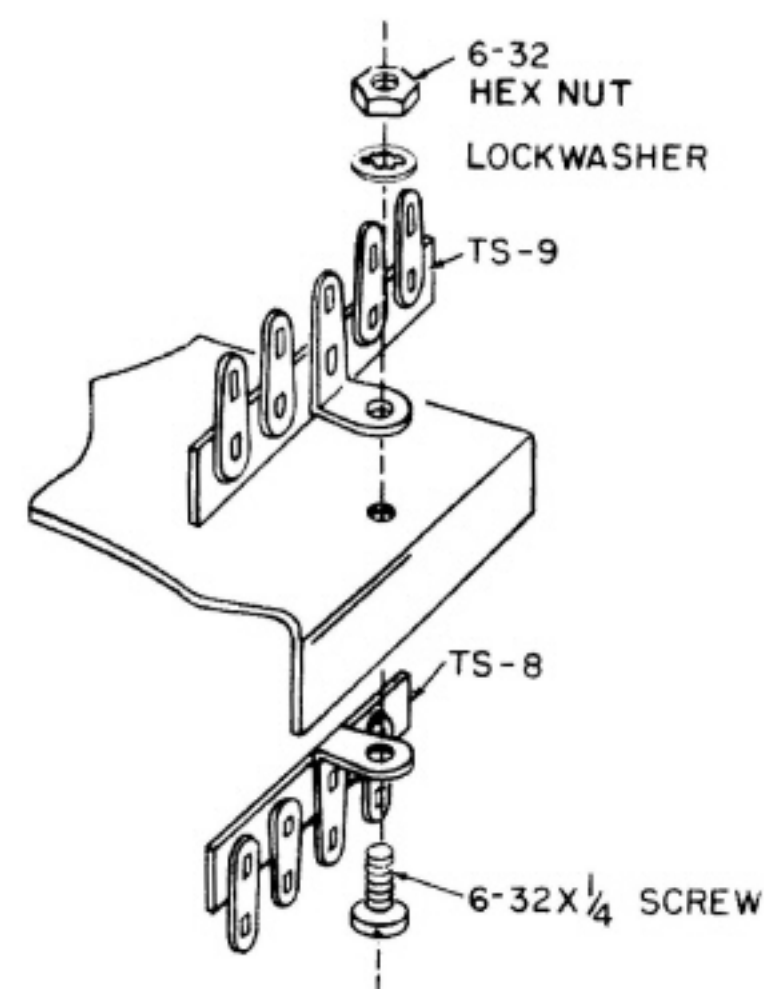

FIGURE 5
- ☐ TS-8, 4-terminal strip and TS-9, 5-terminal strip. See Figure 5. Position TS-9 on top of the chassis and TS-8 on the bottom. Fasten these parts with a  $6-32 \times \frac{1}{4}$ " screw, lockwasher, and nut.